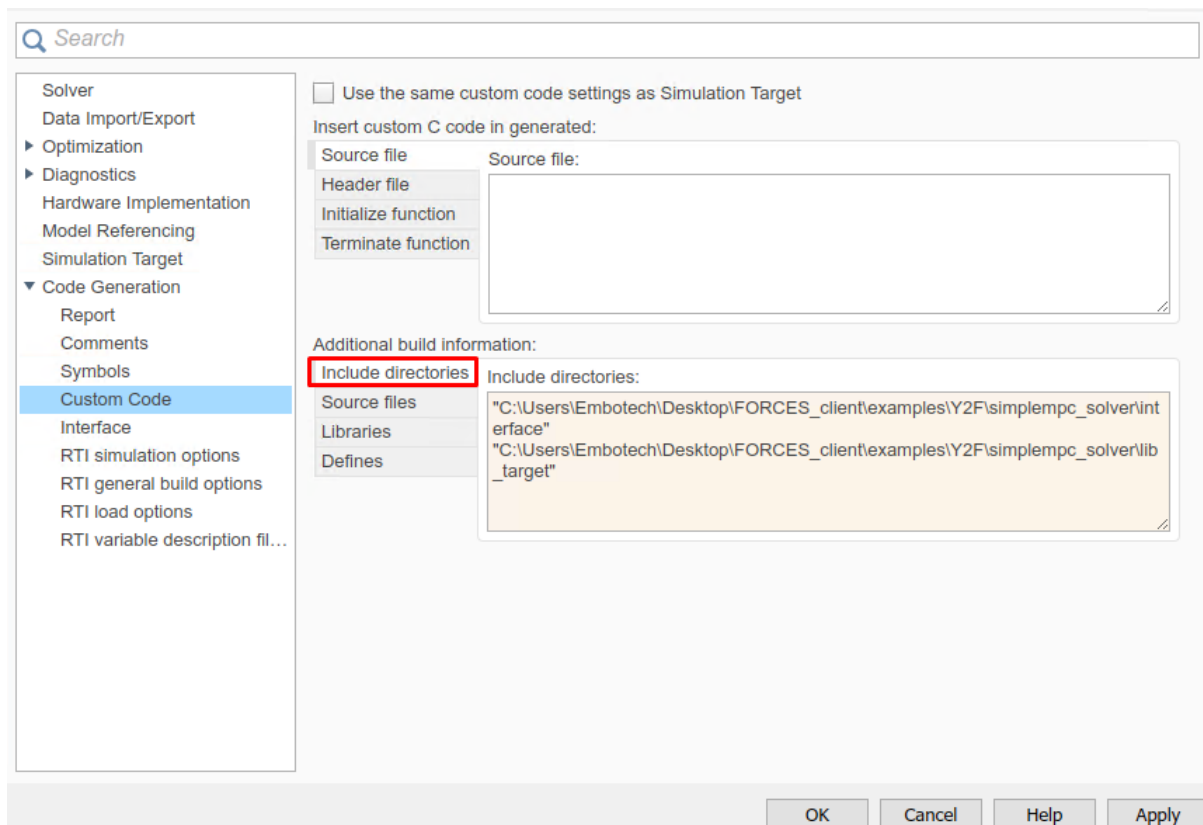

Figure 13.24: Add the directories included for the code generation.
9. (Figure 13.24) In the “Code Generation/Custom Code” tab, include the directories: